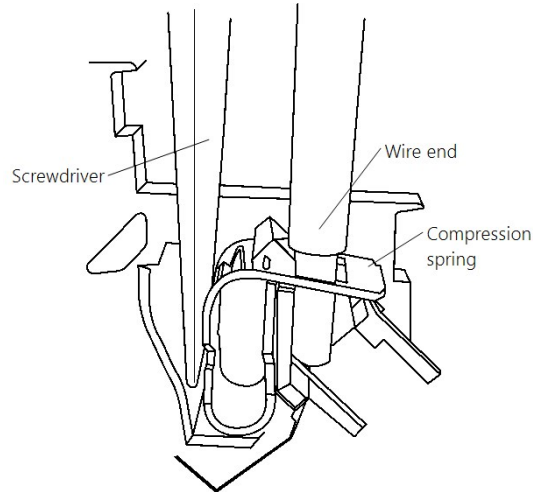

FIGURE B-10. Securing a wire with a spring clamp
- The terminals on DIN-rail components may be secured by screws or spring clamps. To open the spring clamp, insert a small flathead screwdriver as shown in FIGURE B-10 (p. 38) to open the terminal. The wire end is inserted into the spring, and then the screwdriver is removed to close the terminal.